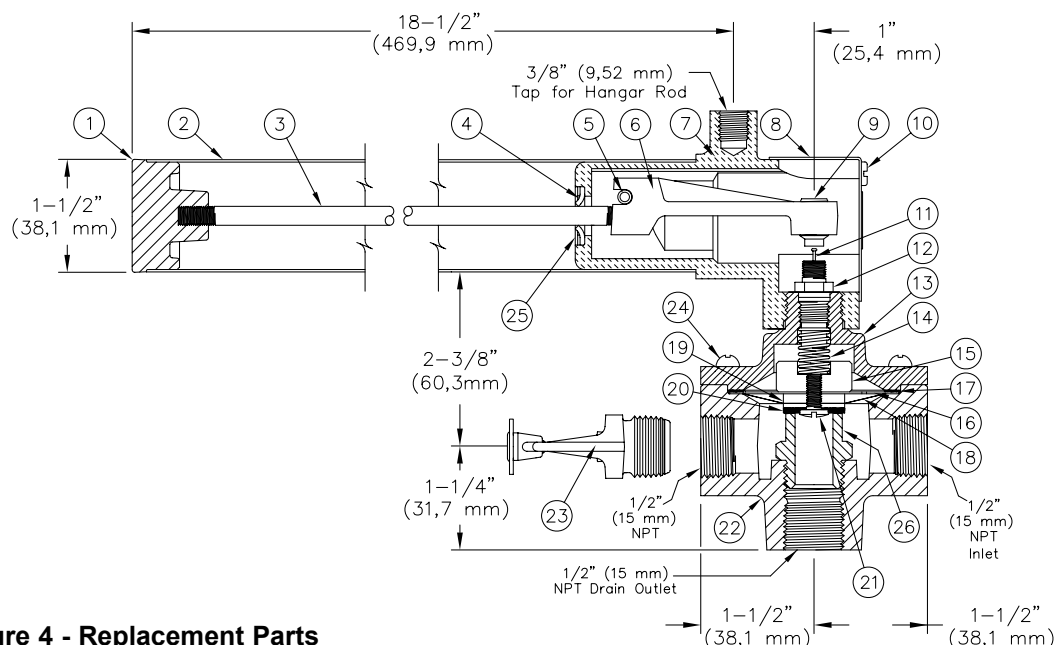

Figure 4 - Replacement Parts
5. OPERATION (Refer to Figure 4.)
C. Maintenance (Refer To Figure 4.)